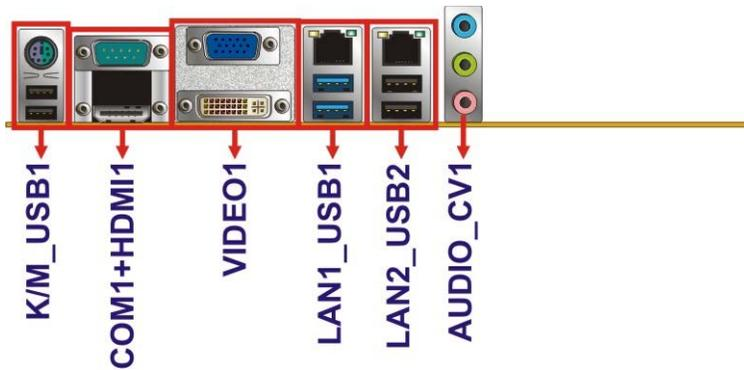

Figure 3-28: External Peripheral Interface Connector
CN Location:	See Figure 3-28
- CN Location:** See **Figure 3-28**
CN Location: See **Figure 3-28**